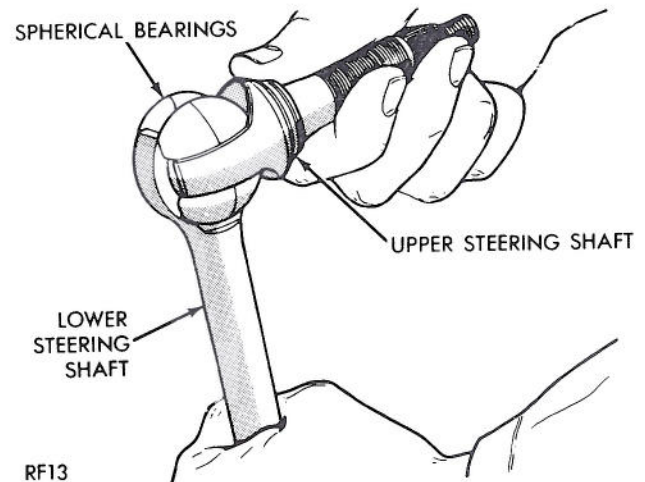
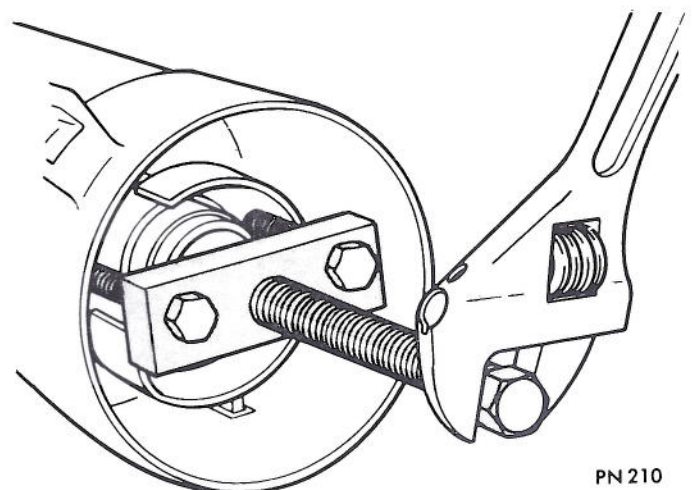

Fig. 11—Assembling or Disassembling Steering Shaft Centering Spheres
Fig. 13—Remove Shift Tube from Bowl
(23) Disassemble steering shaft assembly by removing center spheres and anti-lash spring (Figs. 11 and 12).
(24) Remove four bolts securing support to lock plate and remove support from end of column jacket. If necessary, remove two attaching screws and shift gate from the support. The dimmer switch actuator rod is removed with the support.
(25) Remove shift tube retaining ring with screwdriver. Remove thrust washer.
(26) Using a small screwdriver carefully disengage the plastic shift tube support from the lower end of the jacket.
(27) Remove shift tube from bowl using Tool C-4120 (Fig. 13). Insert bushing on end of tool in shift tube and force tube out of bowl.